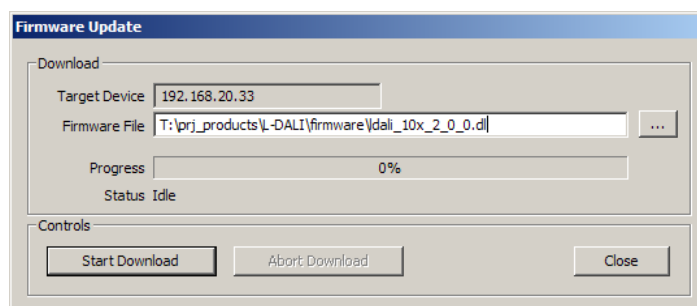

Figure 162: Firmware Update dialog of the LINX-100/200 Configurator.
6. This opens the Firmware Update dialog as shown in Figure 162. Click on the button "...", and select the firmware image ("ldali_10x_2_0_0.dl").